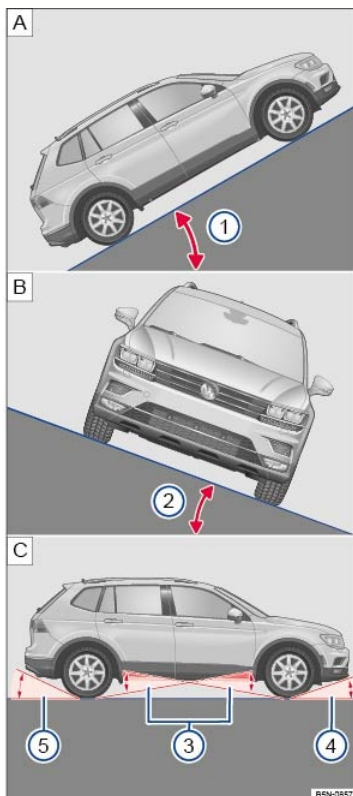

Fig. 123 Important angles to know for off-road driving.
Key to ⇒ *Fig. 123* :
Gradient angle The number of feet (meters) in altitude gained when traveling about 328 ft (100 m) is given as a percentage or in degrees ⇒ *Fig. 123*①. The maximum slope the vehicle can climb unassisted depends on road surface and engine power.
Lateral angle (vehicle slope) The maximum angle the vehicle may be driven across terrain without the vehicle rolling over (depends on center of gravity) ⇒ *Fig. 123*②.